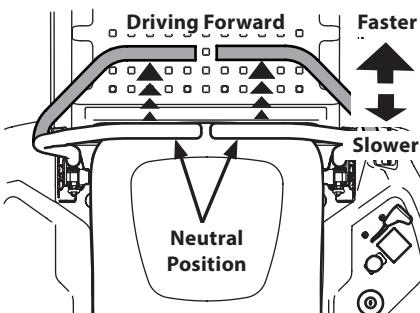

Figure 23
- Slowly and evenly move both lapbar drive control levers forward. The tractor will start to move forward. See Figure 23.